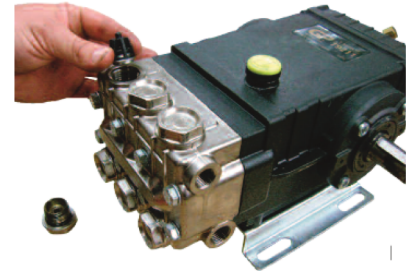

Fig. 5 — Valve cap removed; valve assembly lifted from its port.
- 2 Use needle-nose pliers to remove each valve assembly (Fig. 5).